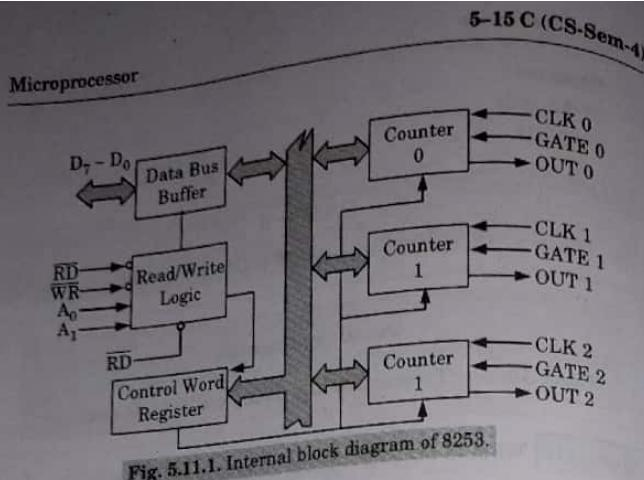

Fig. 5.11.1. Internal block diagram of 8253.
1. The internal block diagram of 8253 is shown in Fig. 5.11.1. The programmable timer device 8253 contains three independent 16-bit counters. It is thus possible to generate three independent delays or three independent counters simultaneously.